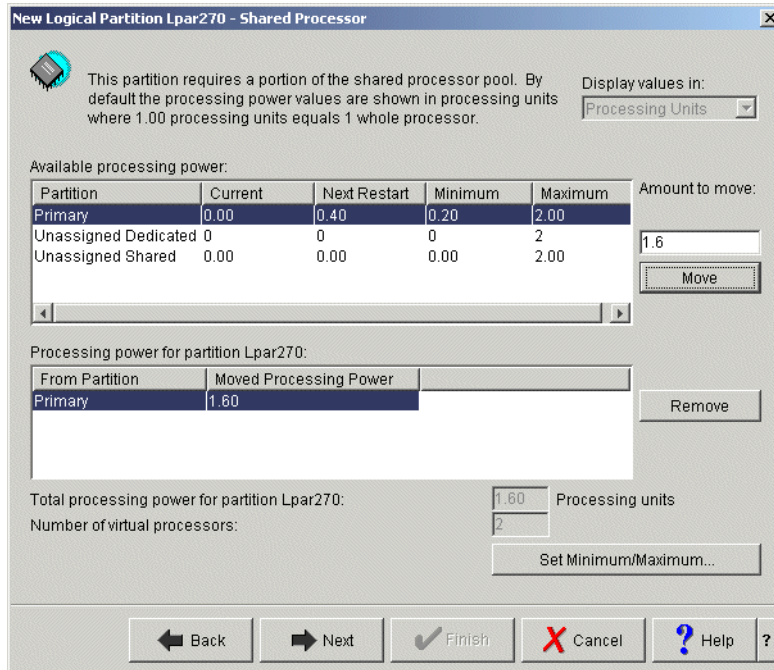

Figure 4-16 Moving 1.6 processing units from Primary to Lpar270
13. Now move 1.6 processing units from the primary to Lpar270 as shown in Figure 4-16. Click **Primary** to highlight the row. In the Amount to move box, type **1.6**. Click **Move**.